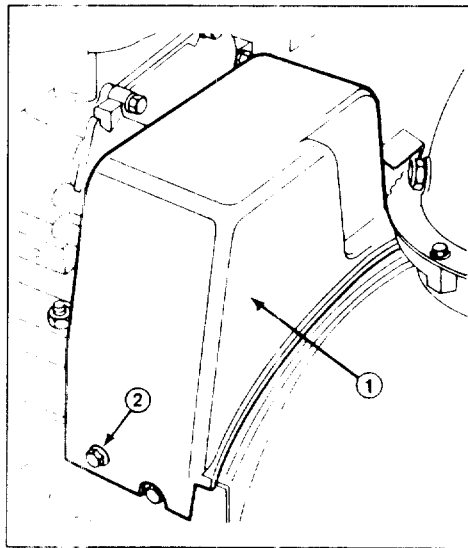

Figure 23
When auger/impeller drive belt (Fig. 23) becomes worn, stretched, oil-soaked or otherwise damaged, belt replacement is required.
2. Remove (2) screws holding belt cover in place and set cover aside (Fig. 23).
3. Remove (2) screws holding belt cover in place and set cover aside (Fig. 23).